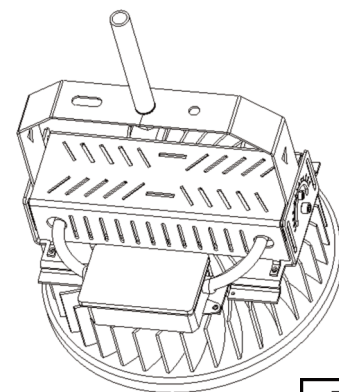

Fig. 4
1. Remove the Hook from the surface mount bracket. See **Figure 4**